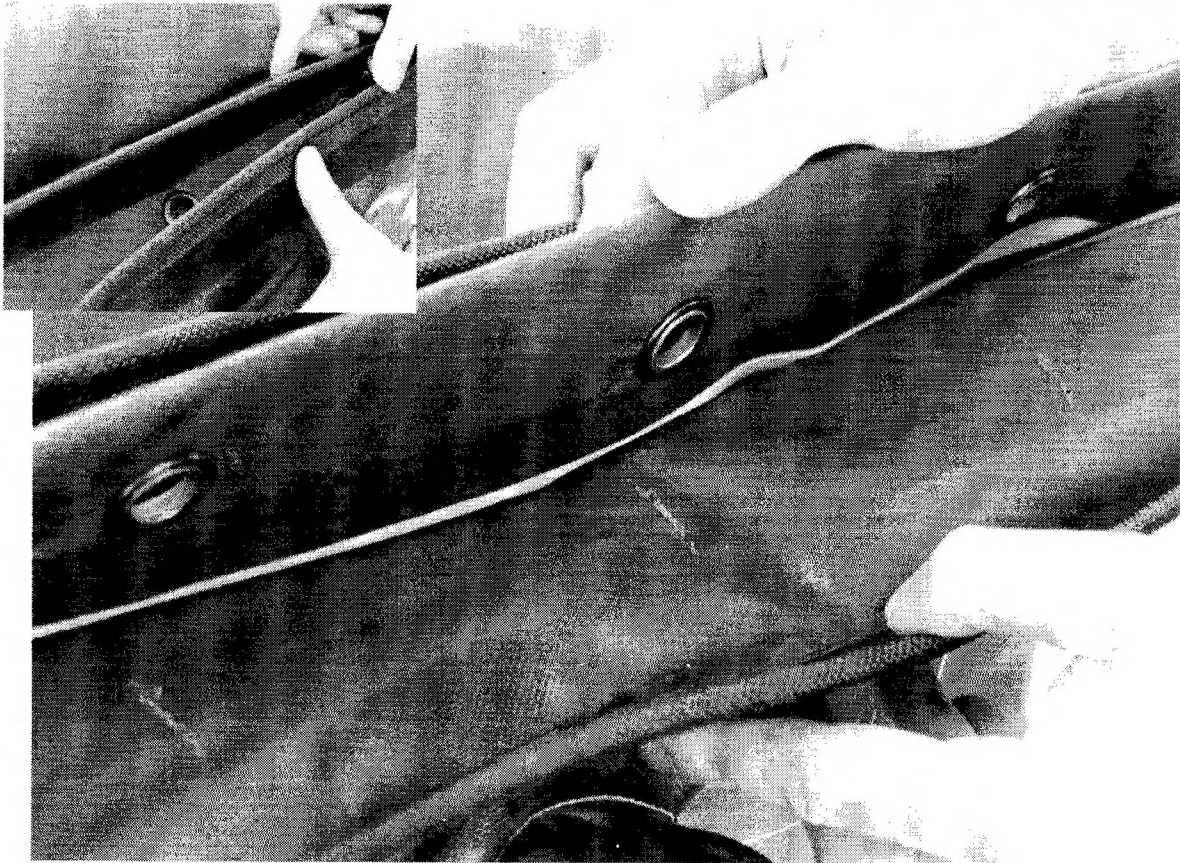
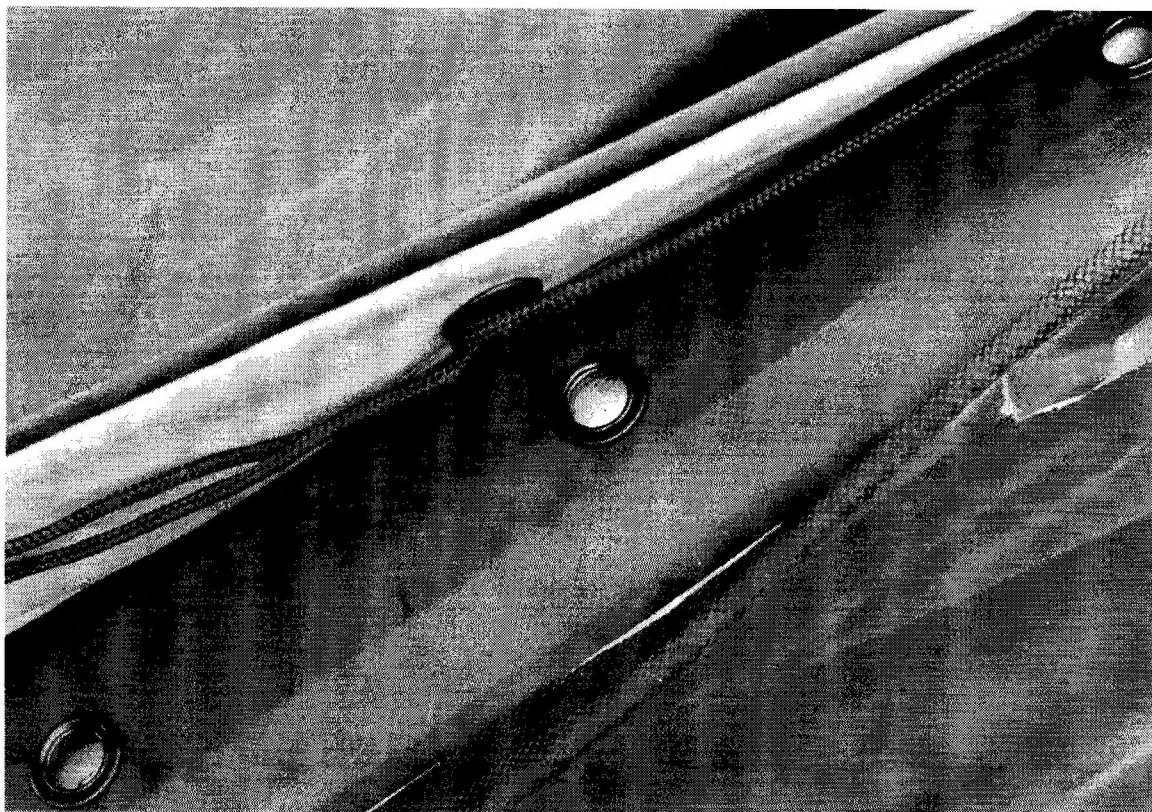

Figure 22: Adjusting flap positions at joints Right Hand Side
Figure 23: Adjusting flap positions at joints Left Hand Side
31. At the joints between the end wall and the roof and wall covers there are a number of flaps. This is due to the combination of the keder rail and dutch lacing combination. The flaps should be interlinked as detailed in Fig 22 and closed together as inset to aid the joining of the keder rail. Note on the right hand side of the roof looking on the end of the tent the eyelets will be directly under the keder, on the left hand side there will be a plane flap Fig 23.